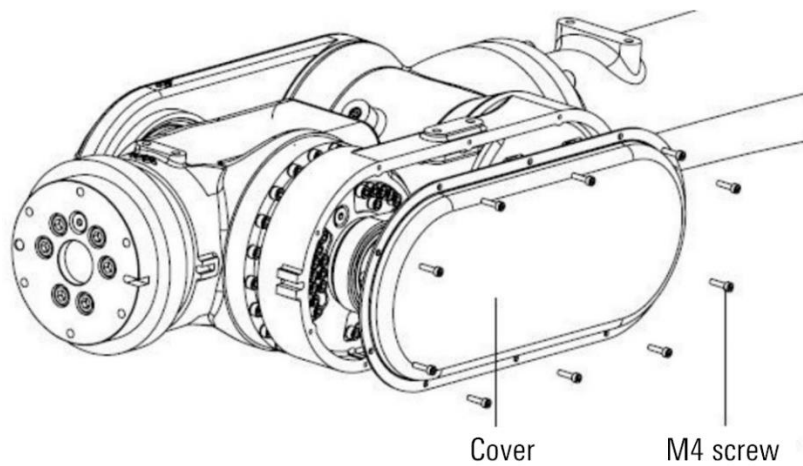
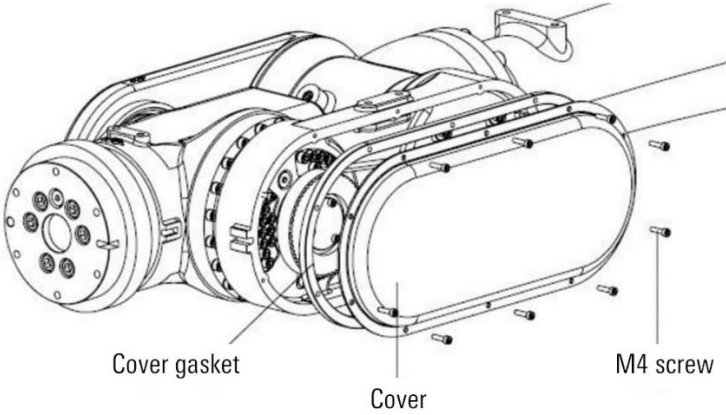
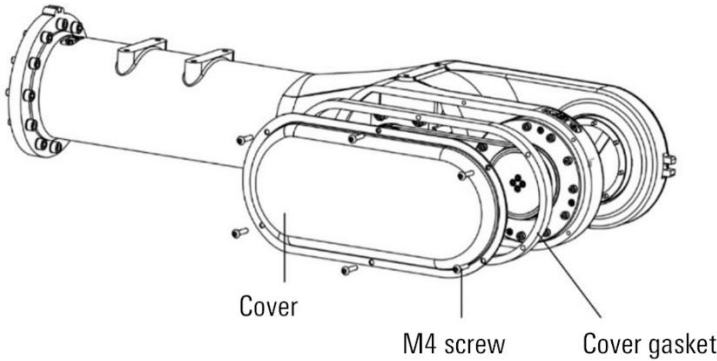

Figure 12-19 AIR50-2260/AIR50-2700 removal cover
Figure 12-21 AIR80-2260/AIR80-2560 removal cover
Figure 12-23 AIR35-2700/AIR20-3100 removal cover
- Step3. Remove the manipulator cover and M4 fixing screws, as shown in Figure 12-19 (or Figure 12-21, or Figure 12-23).